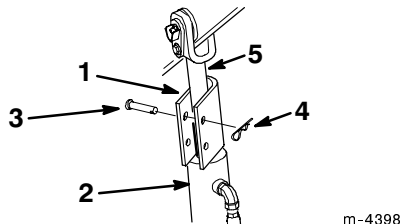

Figure 13
- Position a loader arm cylinder lock over each lift cylinder rod (Fig. 13).
- Secure each loader arm cylinder lock with a clevis pin and cotter pin (Fig. 13).